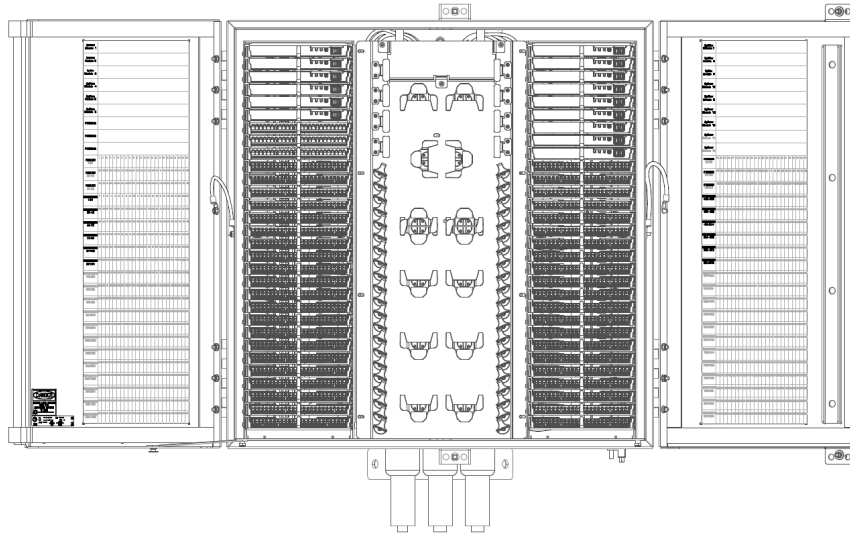

Figure 28. Door Replacement
16.4.1 Open the cabinet doors and lock it in the open position as shown in Figure 28.